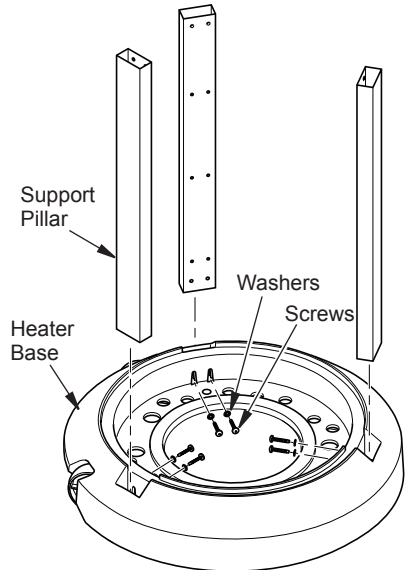

Figure 3 - Installing Support Pillars into Base
1. Locate table heater base and 3 lower table support pillars with holes on one side only. Making sure holes in pillars are oriented as shown in Figure 3, slide support pillars into base and attach with screws (A) and washers (B) through bottom 2 holes as shown.